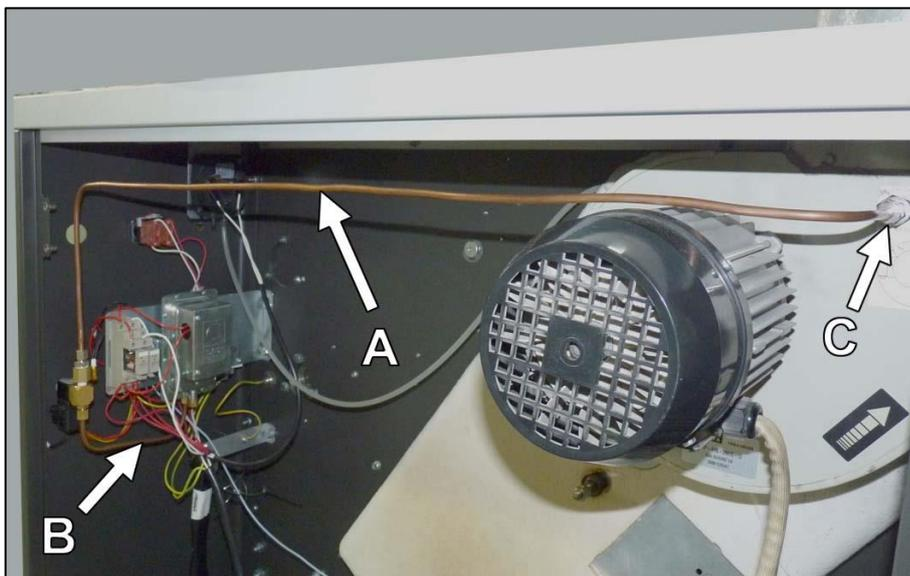

Fig. 13.4
- Disconnect the pipes A and B from the air pressure switch circuit (Fig.13.4).
- Disconnect the pipes A, B and C from the air pressure switch circuit (Fig.13.4).